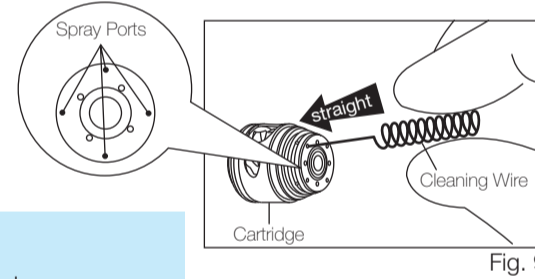

Fig. 9
- 2) Insert the Cleaning Wire straight into the Spray Port. (Fig. 9.)